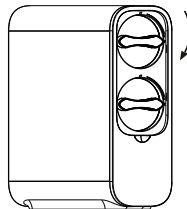

Figure 2
Step 1: align the new filter element logo "△" with "☰" and rotate the filter element clockwise when the filter element logo "△" is aligned with "☰" Indicates that it is installed (as shown in figure 2).